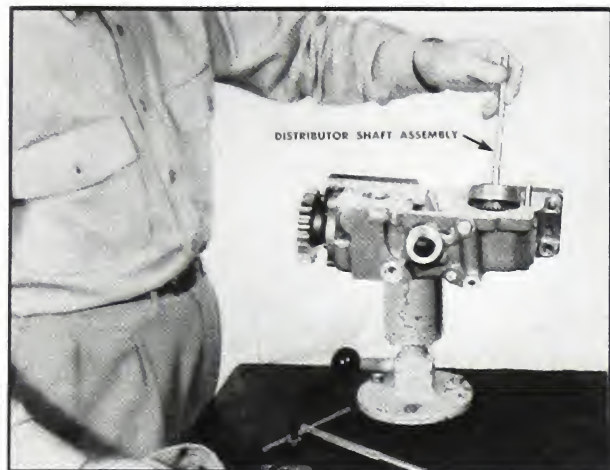

Fig. 5-327. Assemble distributor shaft assembly to main housing
1. Drive disc drive shaft assembly in place with ST-324 driving mandrel and a light plastic hammer. Move camshaft, as needed, while driving to insure proper meshing of gears. Fig. 5-327.